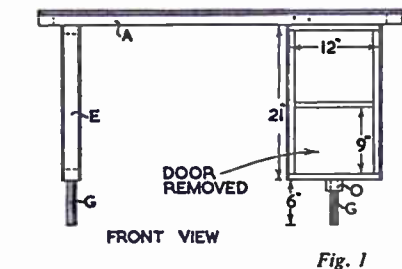

Fig. 1
The general construction is shown in the front and end views in Fig. 1 and some helpful measurements are shown. Notice that the legs consist of lengths of 1 in. diameter round rod.
The rail (O) (Fig. 1) which is of 2 in. by 1 1/2 in. wood is screwed underneath the cabinet and serves as a support for the legs (G) and (N). The leg (N) goes right through rail (O) and is let into the framework at the top.
adjusted to suit the bath and 5 pieces are required. You will see from Fig. 1 that these are various lengths, pieces (C) being a little shorter than the inside widths of the bath, pieces (B) about 6 ins. wider, and piece (D) about halfway between the two. The extending pieces of (B) rest upon the sides of the bath as shown in the illustration, whilst piece (D) forms a pivot, enabling the horse to be folded. The measurement (F) (see Fig. 2) will be slightly less than the inside width of the bath.